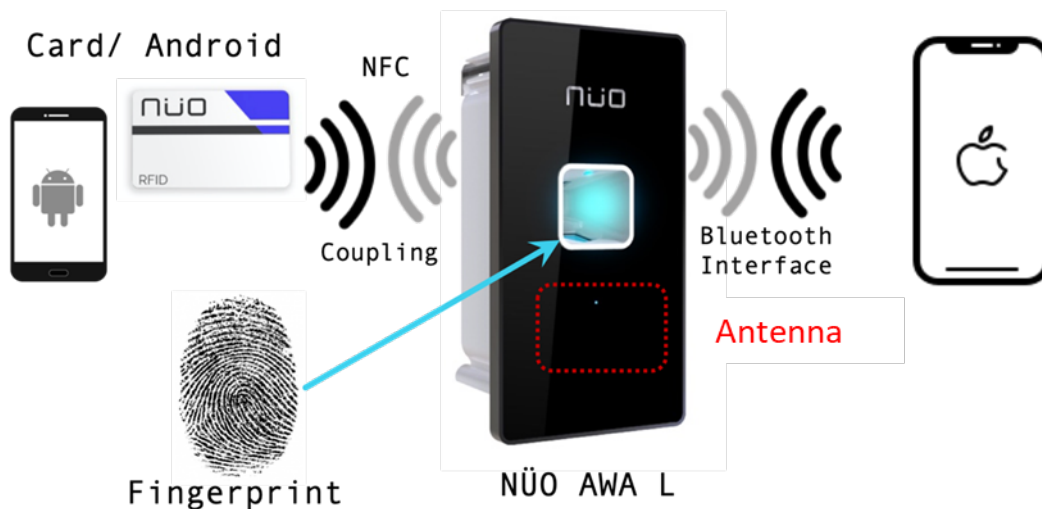

Figure 3. Operational description of NÜO AWA-L reader.
- The readers remain on standby until a finger touches the sensor's area (see Figure 3).